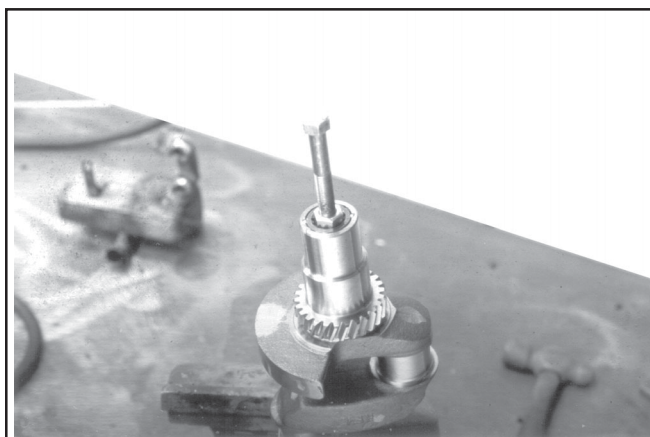

Figure 4.
- b. For a 13 tooth spline, the nut will fit inside the spline, but it will be close enough to the walls for tacking. See Figure 4.